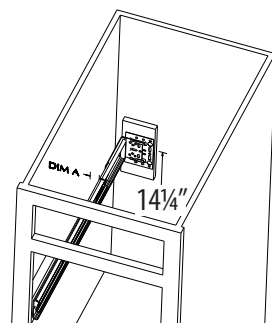

FIG. 8
9. Extend the slide rear mounting bracket until it contacts the rear (furring strip). Center of slide should be 14 1/4" from cabinet floor. Rear mounting bracket should be the same distance from the side cabinet wall at the rear of slide as it is up front ("Dim. A"). Drive (2) #8 x 5/8" screws into holes of mounting bracket. Repeat for other slide. (fig. 8)
10. Install wood frame into cabinet, engaging product member slides into cabinet member slides and pushing unit until it locks in place. (fig. 8)